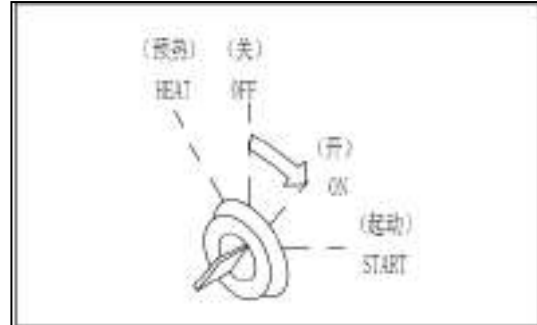

Figure 4-24 Key switch
- b) Turn the starter switch key to the OFF position as shown in Figure 4-24 to turn off the engine.